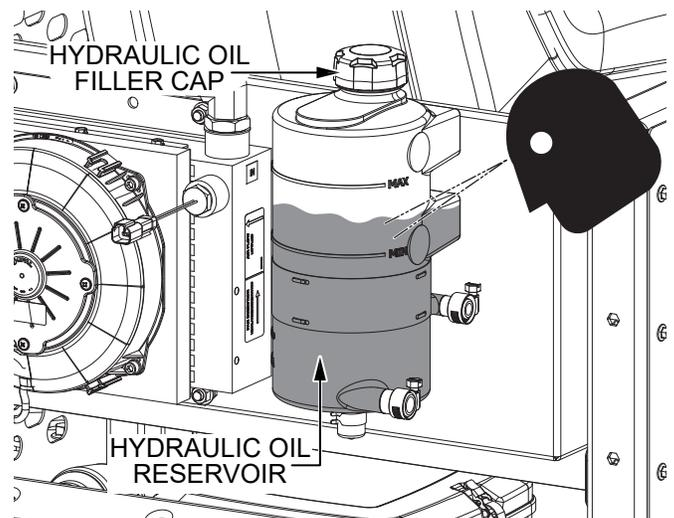

Figure 17. Hydraulic Oil Level Inspection
2. Visually inspect the level of hydraulic oil in the hydraulic oil reservoir (Figure 17). Hydraulic oil should be visible between the **MIN** and **MAX** lines on the reservoir.
3. If the hydraulic oil level is low, remove the hydraulic oil filler cap (Figure 17) and add hydraulic oil up to a level midway between the **MIN** and **MAX** lines on the reservoir. **DO NOT** overfill. Use only Parker DuraClean ISO 46 hydraulic oil. Replace the cap when finished.